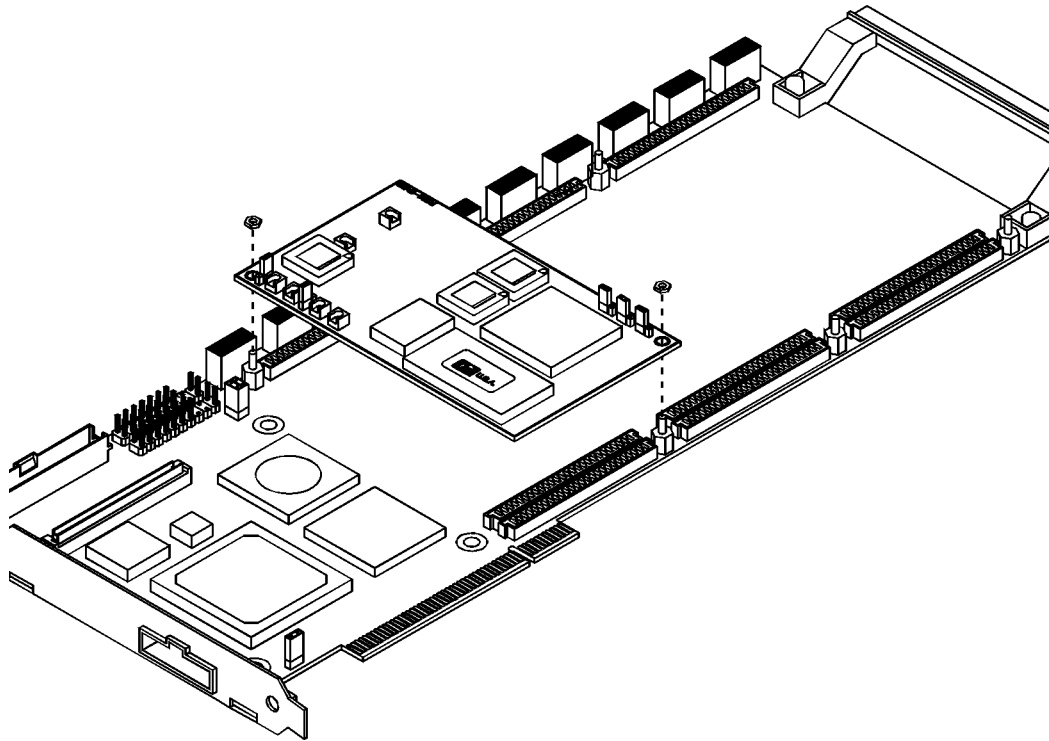

Figure 1-11
1. Align the HP E2748A over the site ensuring that the connectors and nylon retaining posts are properly aligned (see Figure 1-11 on page 1-20).